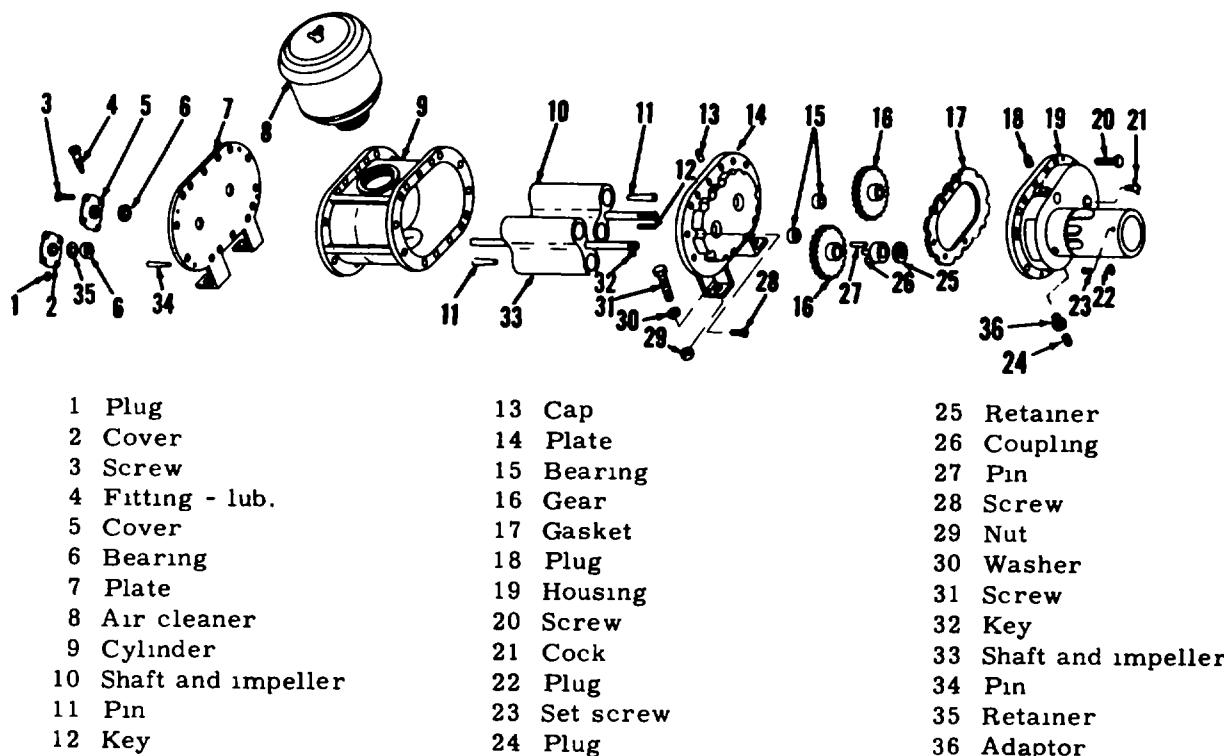

Figure 87. Blower Assembly
- a. Remove the burner fuel pump. See figures 87 and 247.
e. Remove the two spur gears (16).
f. Remove the gear end, headplate (14).
g. Remove the drive cover and the end housing cover (7).